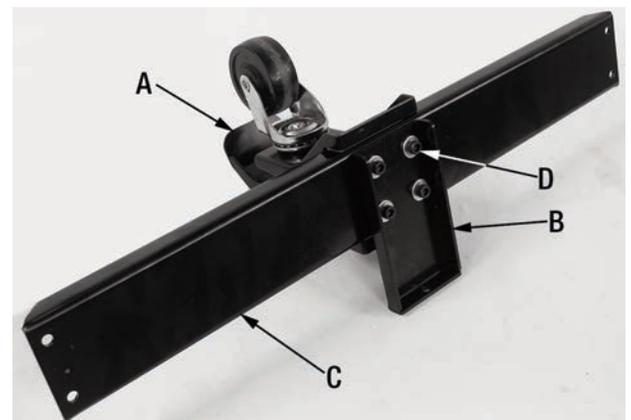

FIGURE 3
- 1) Assemble the pedal caster assembly (A) Fig.3 and bracket (B) to the wheel caster brace (C) using 4 cap screws and washers (D).